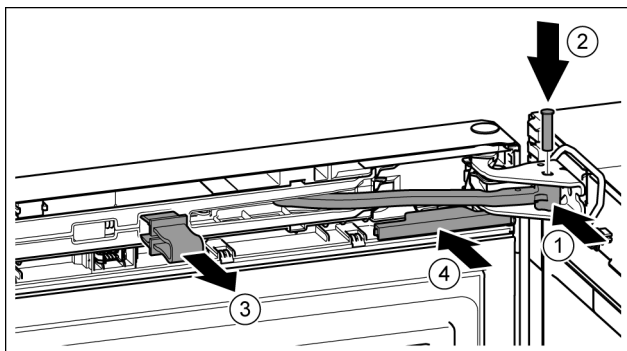

Fig. 22
- ▶ Turn the hinge in the bearing bracket. Fig. 22 (1)
- ▶ Insert the bolt in the bearing bracket and hinge. Make sure that the catch mechanism is sitting correctly in the groove. Fig. 22 (2)
- ▶ Remove the locking device. Fig. 22 (3)
- ▶ Slide on the cover. Fig. 22 (4)